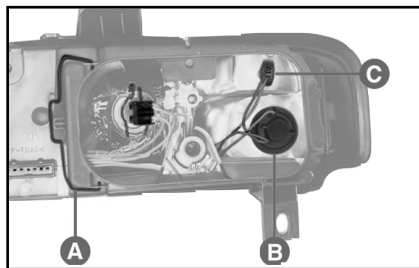

fig. 16
- 1) Release the spring **A-fig. 16** and remove the plastic protective cover.